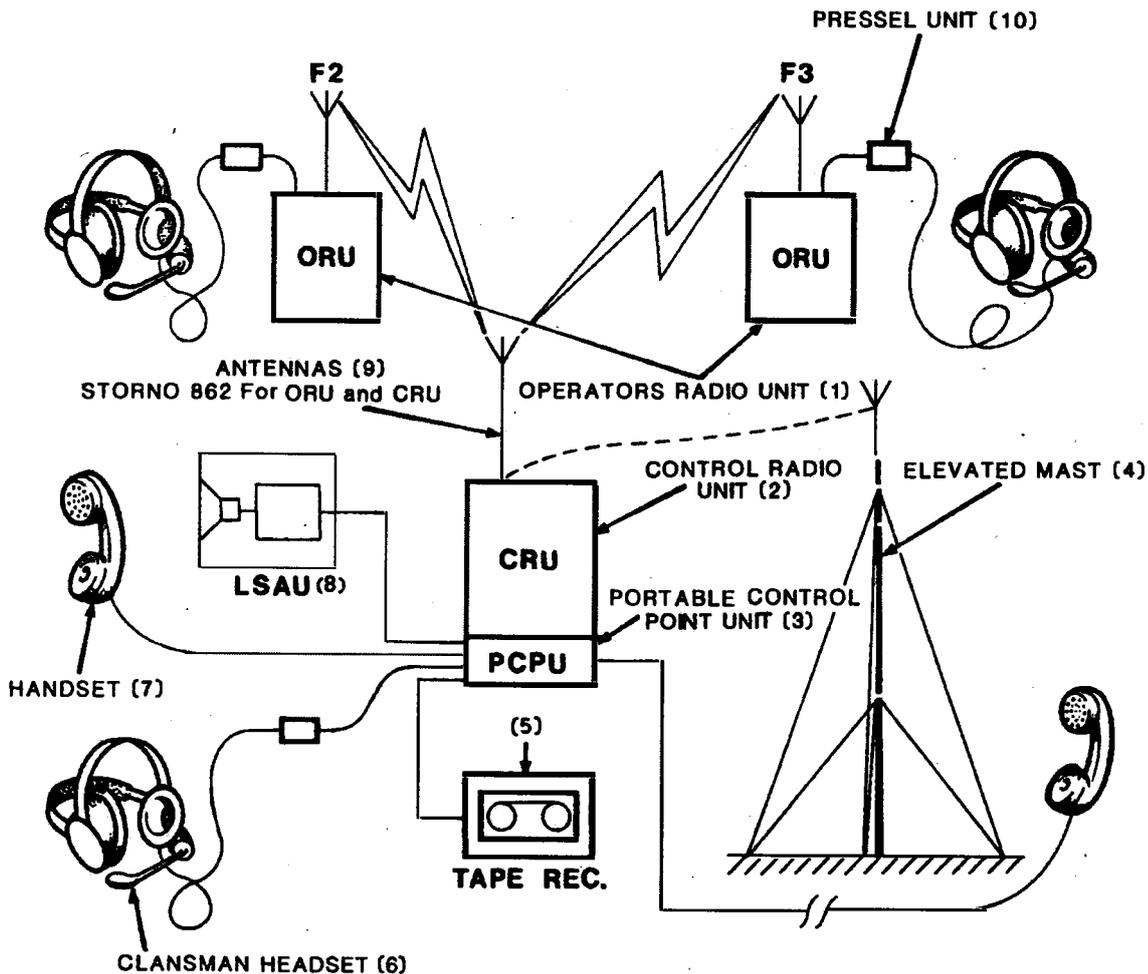
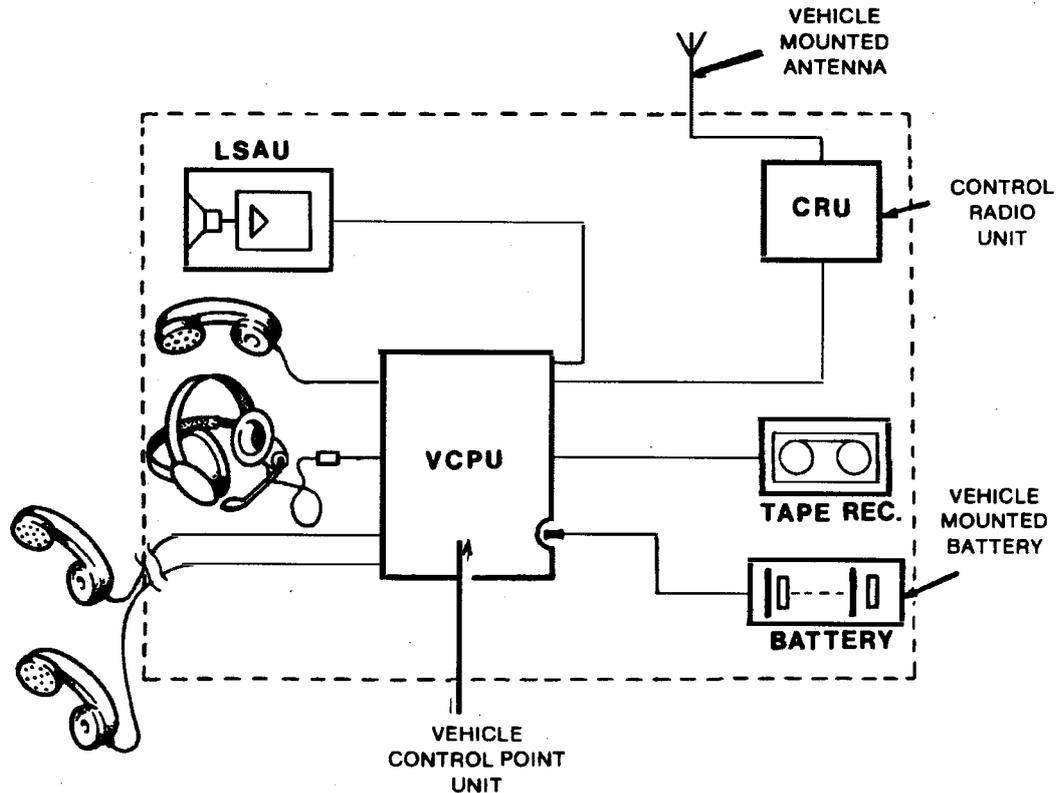

Fig 2 General purpose role
Fig 3 Vehicle installation role
2 The purpose of the Shoracre equipment is to provide two-way speech between the Explosive Ordnance Disposal (EOD) teams and their Incident Control Point. The latter can be either man-portable in the General Purpose role (see Fig 2) or fitted into a vehicle for the Vehicle Installation role (see Fig 3) and is provided with the facility for recording all net conversations. In the General Purpose role the team comprises Search Operators 1 and 2 working with an Incident Controller, whereas in the Vehicle Installation role there is a Disposal Operator (DO) and a Stand Off Observer (SOO) both working with a controller.